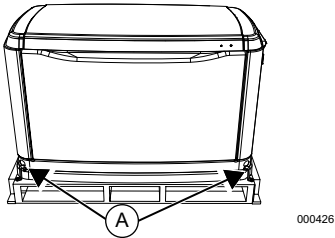

Figure 2-3. Pallet Bracket Locations
- See Figure 2-3. Remove bolts and pallet brackets (A). Exercise caution when removing generator. Dragging it off pallet will damage base. The unit must be lifted from wooden pallet to remove.